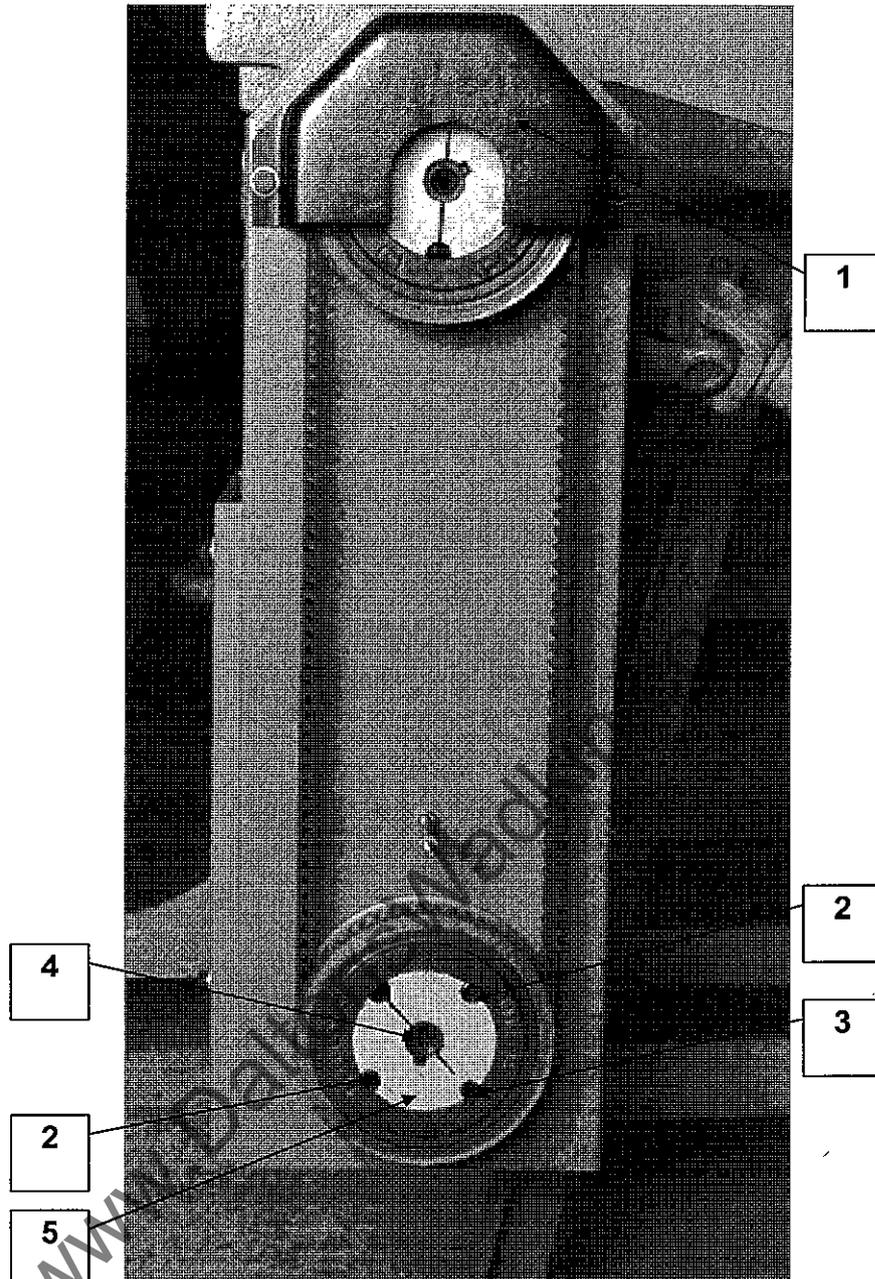

Figure 7.3.5
- 1 Slacken locking nut (1).
- 2 Screw adjusting bolt (2) counterclockwise until pressure is removed from pivot plate (3) and tension is removed from the drive belt.
- 4 Tighten nut (1).
7.3.5 Replace Outfeed Bottom Drive Belt on Machine fitted with Straightening Infeed Table (Figure 7.3.5)
- 1 Remove the belt cover (1).
- 2 Remove the two grub screws (2) using an hexagonal key.
- 3 Insert one of the grub screws into jacking hole (3).
- 4 Screw in the grub screw until bush (4) is loosened.
- 5 Remove the bush from the shaft and remove the pulley (5); remove grub screw (2) from the jacking hole (3).
- 7 Position the pulley (5) over the drive shaft.
- 8 Insert bush (4) into the shaft ensuring that the screw holes are aligned correctly.